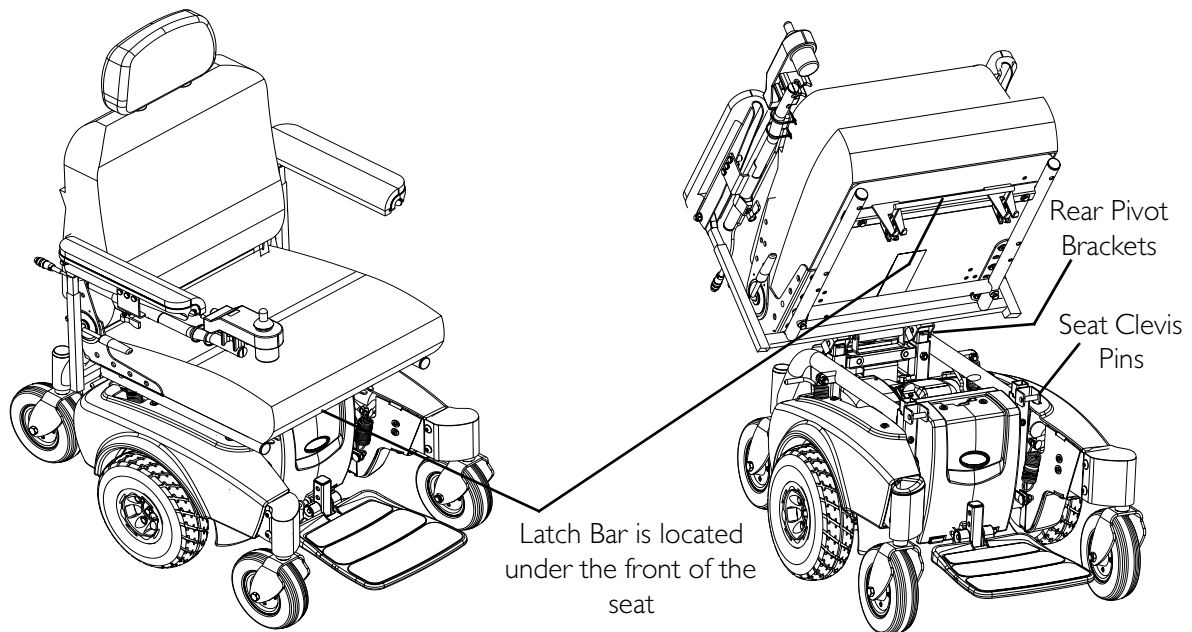

FIGURE 14.5 Removing/Installing the Seat Assembly
NOTE: For this procedure, refer to FIGURE 14.5.
1. Position the seat in the rear pivot brackets as shown in FIGURE 14.5.